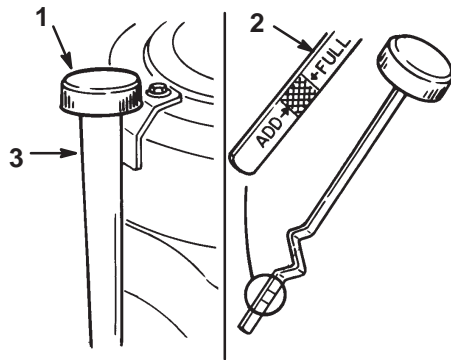

Figure 23
2. Clean around the oil dipstick (Fig. 23) so dirt cannot fall into the filler hole and damage the engine.
3. Unscrew the oil dipstick and wipe the metal end clean (Fig. 23).
4. Slide the oil dipstick fully into the filler tube, do not thread onto tube (Fig. 23). Pull the dipstick out and look at the metal end. If oil level is low, slowly pour only enough oil into the filler tube to raise the level to the "FULL" mark.
5. Slowly pour approximately 80% of the specified oil on page 24, into the filler tube (Fig. 23). Now check the oil level; refer to Checking Oil Level, page 24. Slowly add additional oil to bring to "FULL" mark on dipstick.